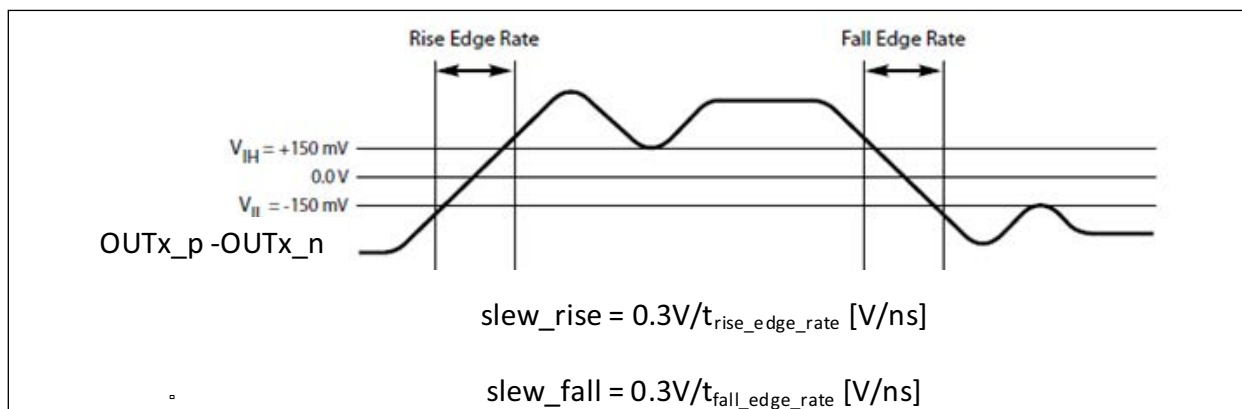

FIGURE 4-4: Differential Measurement Points for Rise and Fall Time.
- 4: Measured from -150 mV to $+150$ mV on the differential waveform (derived from CK minus CK#) The signal must be monotonic through the measurement region for rise and fall time. The 300 mV measurement window is centered on the differential zero crossing. See Figure 4-4.